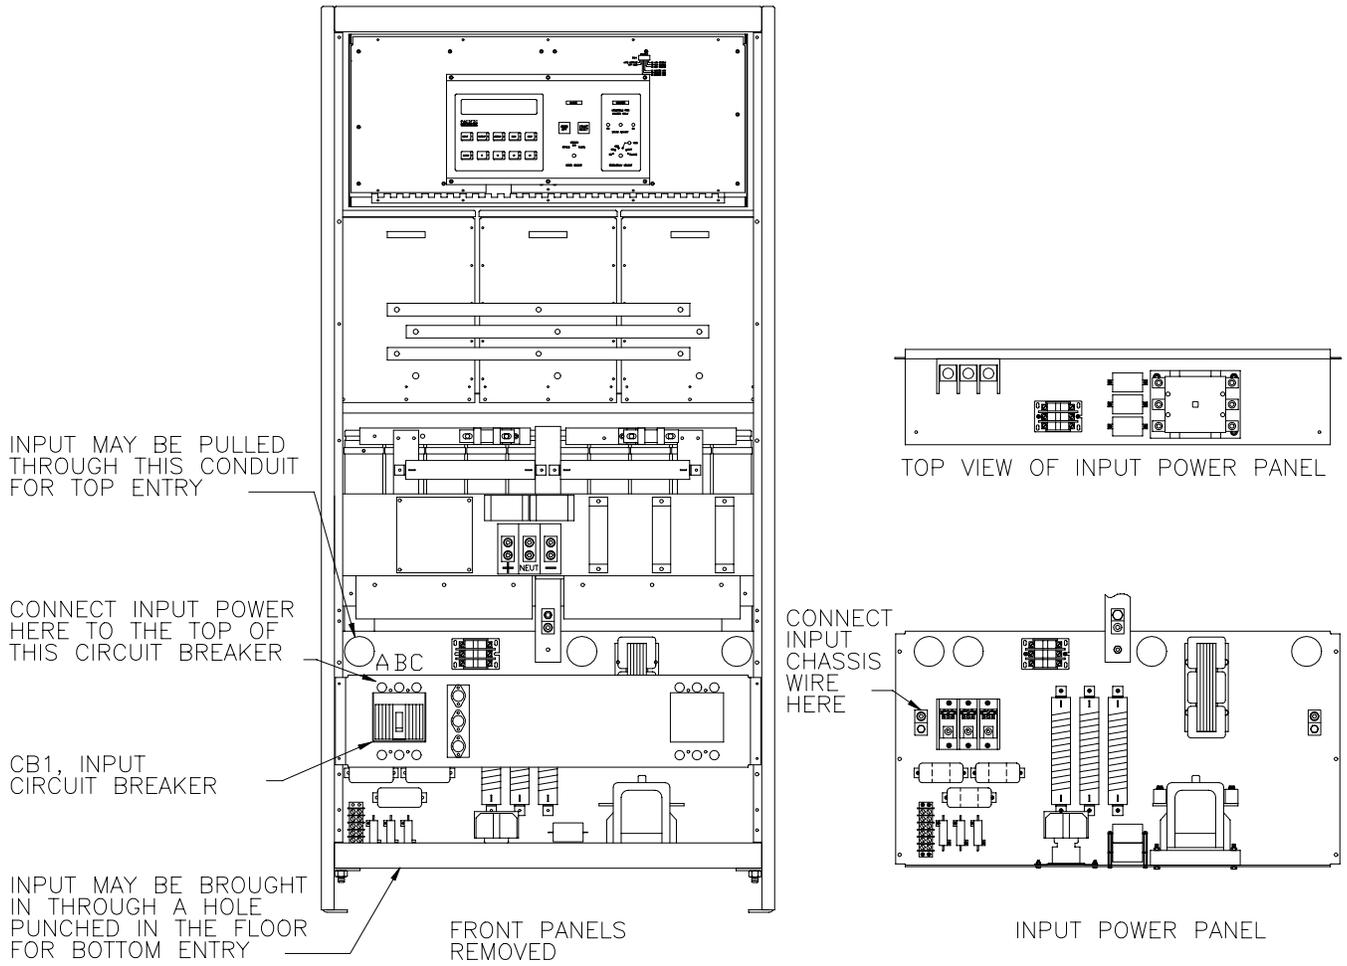

FIGURE 3.5 INPUT TERMINAL DETAIL
- 1 REFER TO FIGURE 3.5.
Input connections to the 3060-UMS AC Power Source are made at the Circuit Breaker labeled "INPUT POWER." Refer to figure 3.5 for location and orientation of terminals.